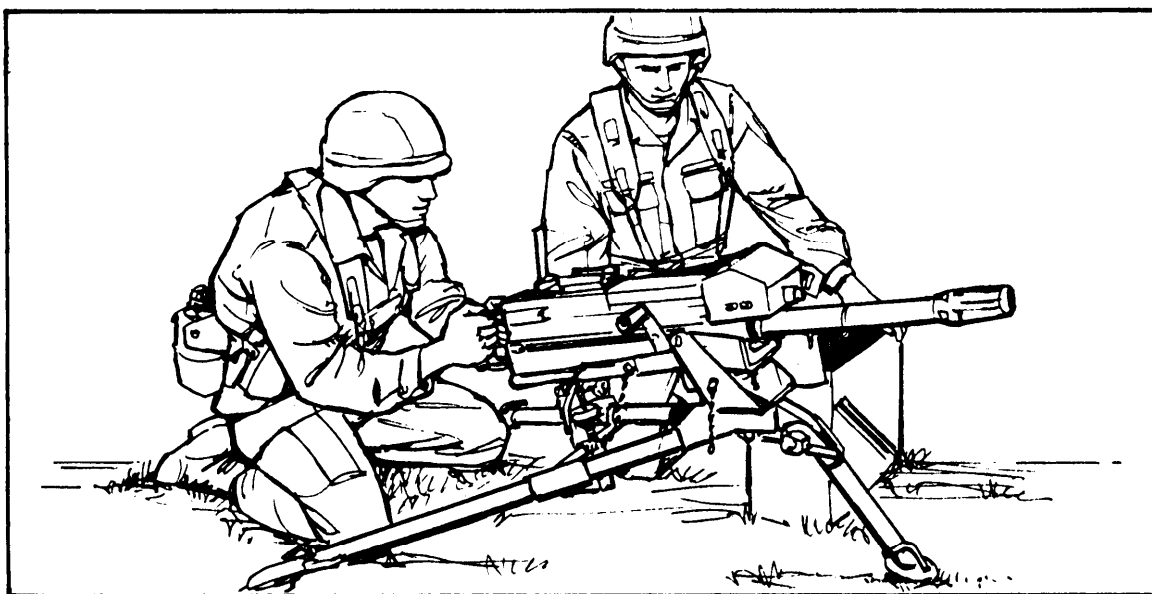

Figure 5-3. Hasty tripod position.
c. Kneeling. When the MK 19 is in a fighting or hasty tripod-mounted position (Figure 5-3), kneel and grasp the control grips with thumbs on the trigger.